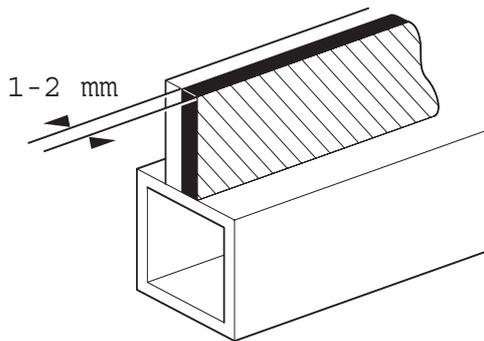

Fig 5.
- 5 If necessary, trim off the remaining old sealant to leave approximately 1 to 2 mm on the upright face of the cab frame aperture. → Fig 5. (B-52)